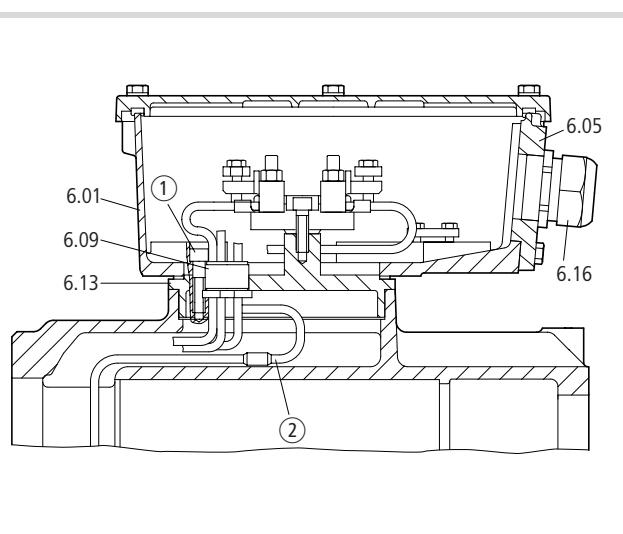

Figure 14: Removing the terminal box from the bushing plate
- Undo the fastening screws ① (→ Fig. 14).
Proceed as follows to disconnect the stator winding of motors with moulded core bushings (→ Fig. 14):